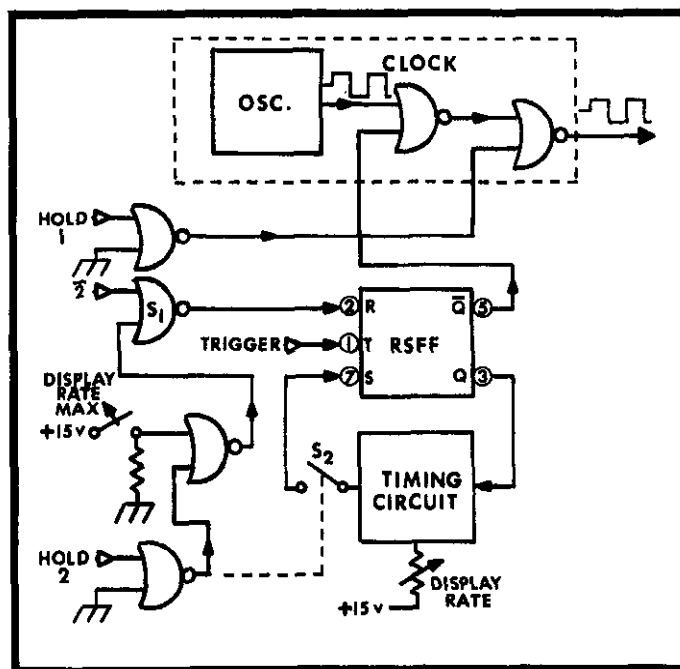

FIGURE 16. Block Diagram of Delay Hold Circuit.
e. Delay Hold. The Delay Hold circuit controls the DISPLAY RATE function and external Hold and Trigger commands (refer to Figure 16).
1. It determines the length of time between A-to-D conversions when the front panel DISPLAY RATE Control is set to any position other than MAX. The clock is stopped at the beginning of the ZERO (2) period for a time determined by the rotation of the DISPLAY RATE Control.
2. It ensures that when the Hold 2 is grounded the conversion in process will be completed and new data will be stored in the output storage register. Then the clock will be inhibited at the beginning of the ZERO period (2). The instrument will remain in this condition indefinitely until Hold 2 is released
a) "RS" Type Flip-Flop Circuit. The flip-flop gates the output of the clock depending on the inputs at pins R and S. The RS flip-flop is constructed of gates QA501B and QA501C. The pins are identified as shown in Figure 16.
c) "HOLD" Gate Circuit. (Refer to Figure 16 for identification of switches S_1 and S_2). The "HOLD" gate circuit is composed of gates QA501A, QA501D, and QA502 (A, B, C, and D). Switch S_1 is gate QA501A and is controlled by either the "HOLD 2" external line or the "MAX" position on the DISPLAY RATE Control. Switch S_2 is transistor Q513 which is controlled by either the "Q" output of the flip-flop or the "HOLD 2" external line. The "HOLD 1" circuit is composed of gates QA502B and QA502C.